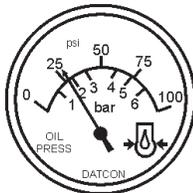

Figure 56. Oil Pressure Gauge
13. The engine oil pressure gauge (Figure 56) will indicate the oil pressure (kg/cm²) of the engine. Under normal operating conditions the oil pressure is approximately 25 psi.